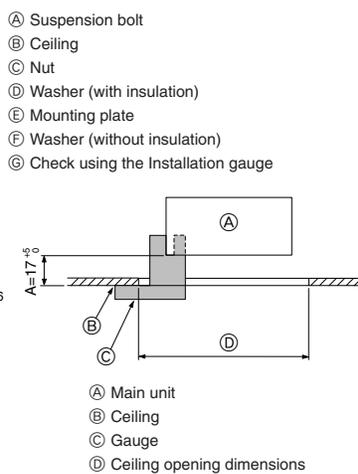

Fig. 3-7
- Make sure that step A is performed within 11/16^{+3/16} in. (17⁺⁵/₁₆ mm). Damage could result by failing to adhere to this range. (Fig. 3-7)